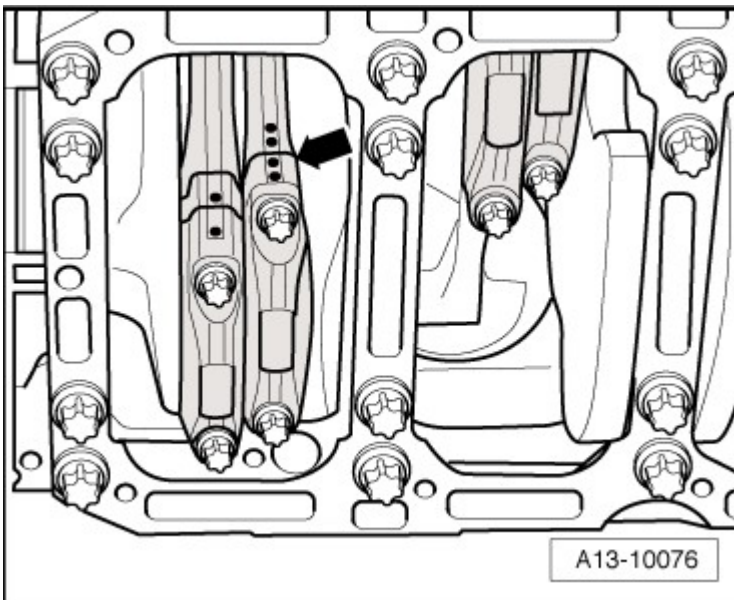

Fig. 18: Connecting Rod, Marking
- Mark allocation to cylinder with paint -B-, refer to **Fig. 18**